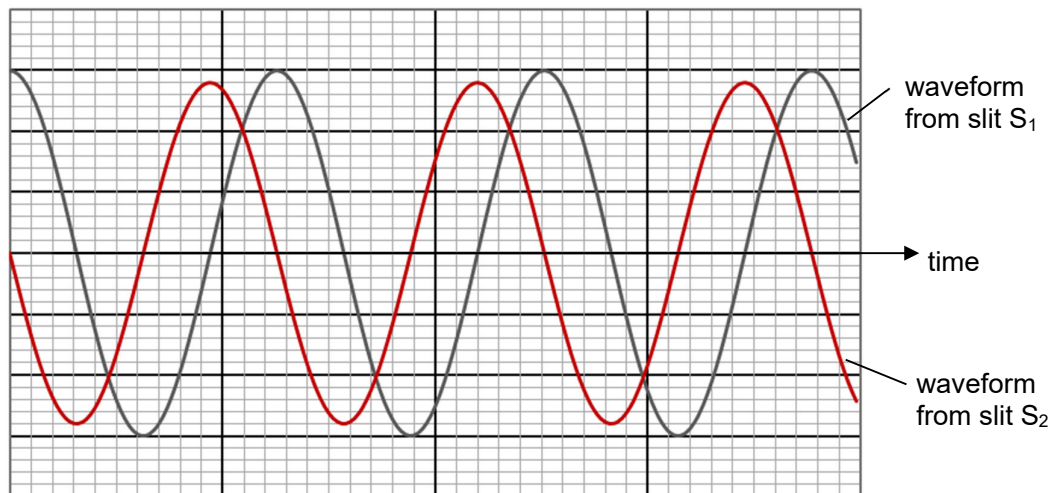

Fig. 21.3
- (c) Fig. 21.3 shows the individual waveforms from slit S_1 and slit S_2 at a point P between the zeroth order and the first order maxima of the interference pattern.
- (i) Using Fig. 21.3,